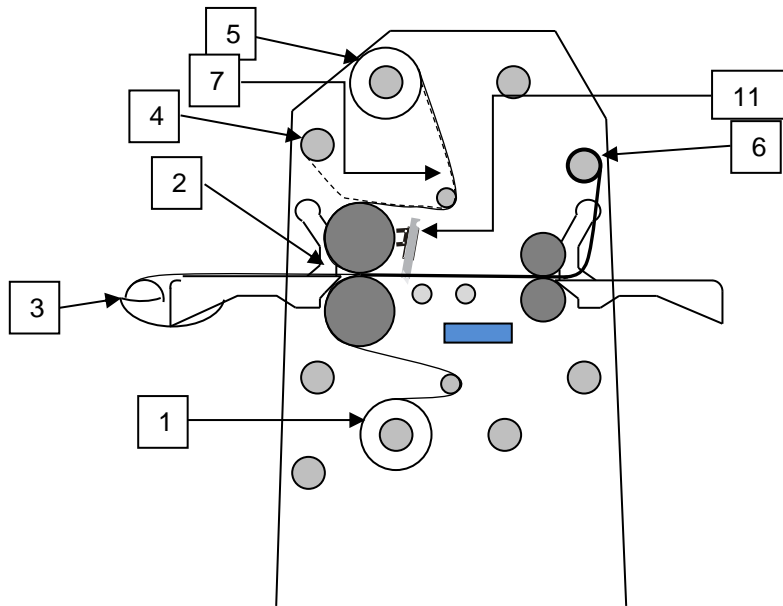

Figure 7: Creating Pop-up art, including image supply roll trough.
When using a pressure sensitive laminate, it often has a release liner (as shown in Figure 7) that has to be removed. It runs over a splitter bar (7) where the release liner is removed. This release liner is rolled up onto a cardboard core placed on the wind-up shaft (4) in the upper section.